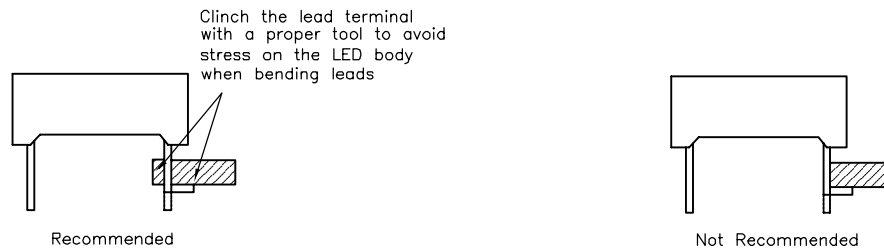

Fig. 8
4. Lead forming should only be done with proper tools such as a jig and/or radio pliers. The upper section of the leads should be secured firmly such that the bending force is not exerted on the LED body. Refer to below diagram (Fig. 8) for recommended lead bending method.